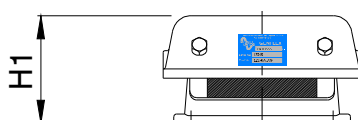

Figure 4
**The initial Working Height Range H1 (after initial sea trials) should be as shown in figure 4 and the table below.**